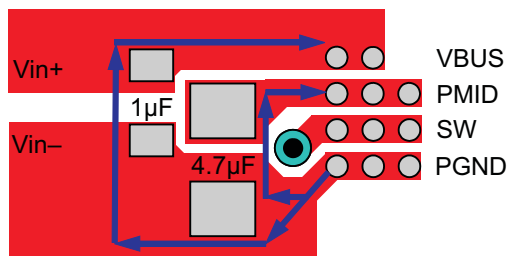

Figure 41. Input Capacitor Position and PCB Layout Example
- Place 4.7 μ F input capacitor as close to PMID pin and PGND pin as possible to make high frequency current loop area as small as possible. Place 1 μ F input capacitor as close to VBUS pin and PGND pin as possible to make high frequency current loop area as small as possible (see Figure 41).